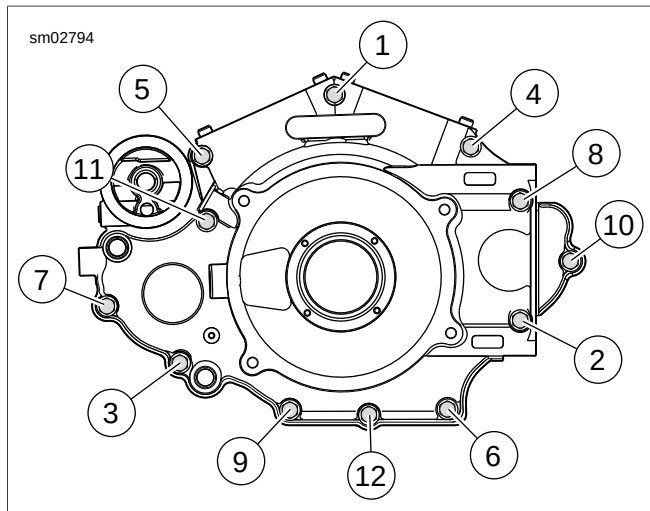

Figure 3-169. Tighten in Sequence Shown
8. See Figure 3-169. Start the twelve crankcase bolts and tighten in the following sequence.